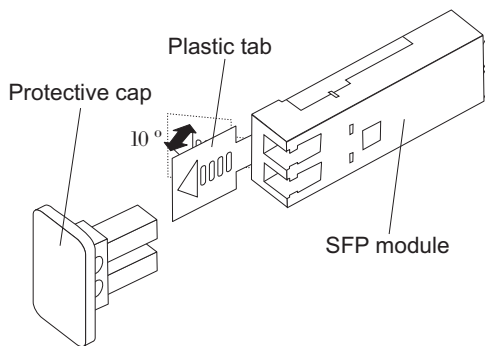

Figure 30. Unlocking the SFP module latch - plastic variety
- For SFP modules that contain plastic tabs, unlock the SFP module latch by pulling the plastic tab outward 10°, as shown in Figure 30.